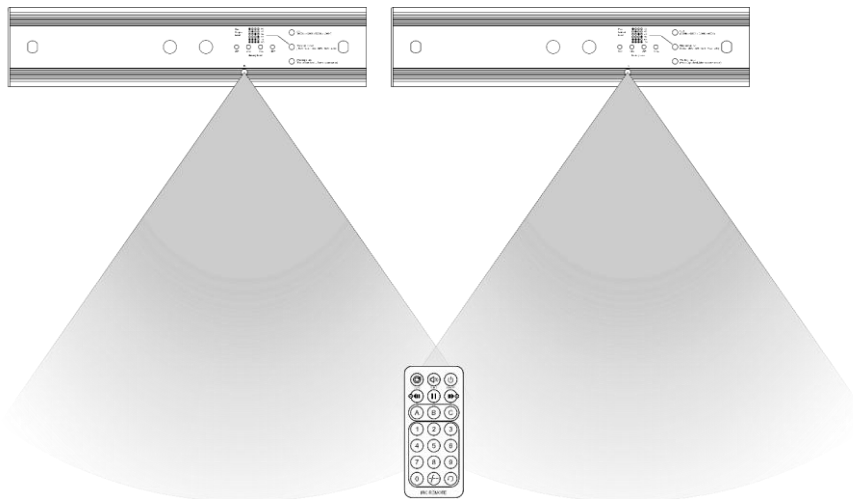

Fig. 12
You can control several devices at the same time with the remote control. Make sure that you point the remote control to the **infrared sensor (15)** of the device or group of devices that you want to control, as shown in Fig. 12. If you point the remote control to the **infrared sensor (15)** of the device outside of the range of the sensor, the device will not respond to the remote control (Fig. 13).